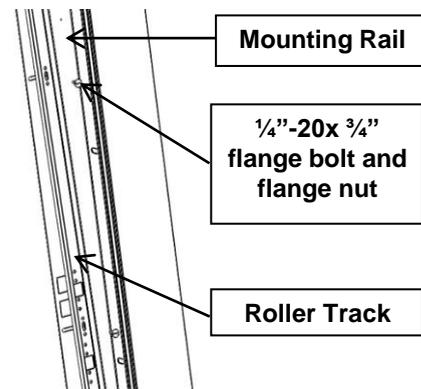

Figure 9 Attaching roller track to mounting rail.
7. Attach roller track to mounting rail using flange nut and bolts. (**See Figure 9**).